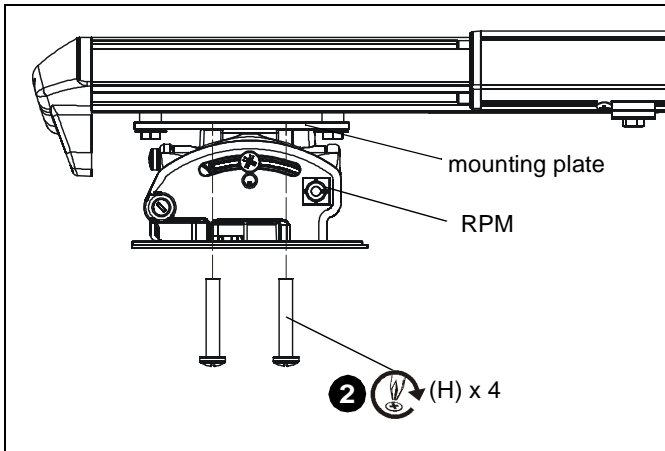

Figure 16
2. Install four 1/4-20 x 1-1/2" Phillips pan machine screws (H) through RPM holes and into projector mounting plate. (See Figure 16)